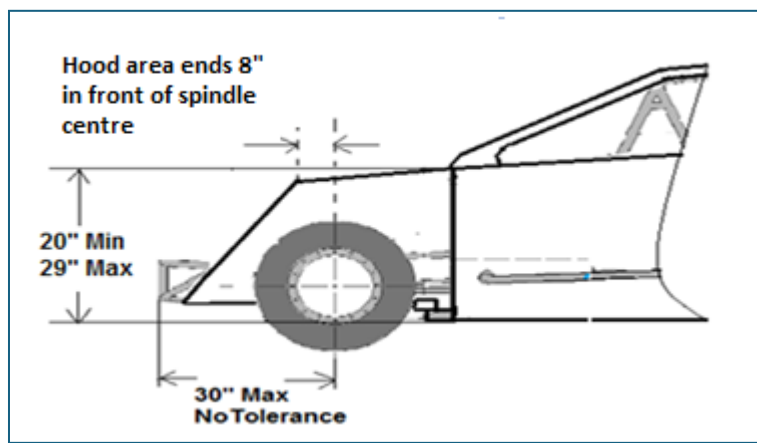

Figure 5
- **Nose** means the front section of the car body that extends from the front of the hood to the front bumper (Figure 5).
- 8.1. Hood height (excluding air filter and any plastic or sheet metal cover used to protect the air filter) must not be less than 20 inches or exceed 29 inches max (No tolerance). The hood height is the vertical measurement from the bottom of the lowest point on the main frame rail to the top of the hood (*Figure 5*).
- 8.8 Front of bumper may not extend more than 30 inches forward of spindle centre (No tolerance). Measurements to be taken from centre of either front spindle to the outside of front bumper (*Figure 5*).